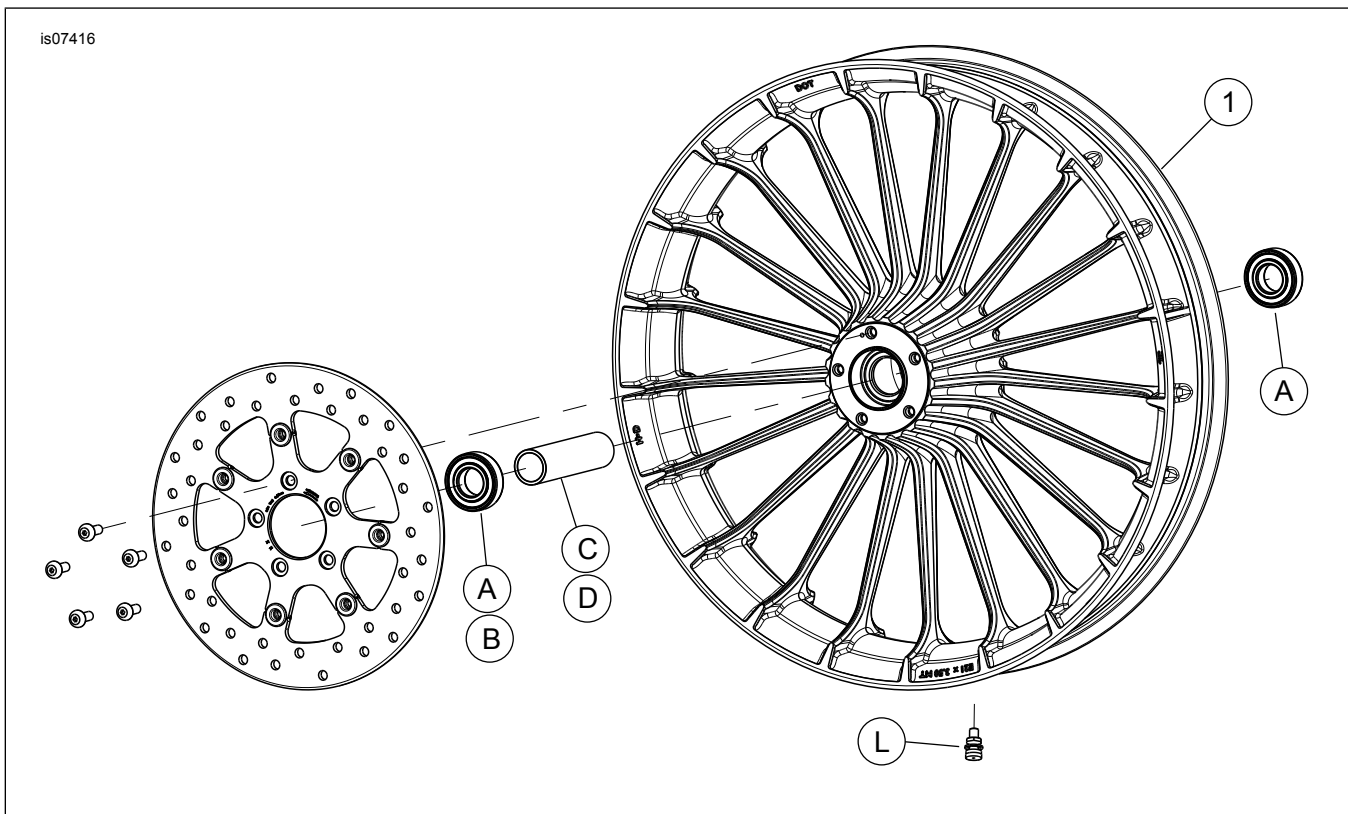

Figure 2. Service Parts: Front Turbine Wheel
This kit includes the custom wheel only. See Figure 2 and Table 2.
2. See Figure 2. Install valve stem assembly (L) on wheel. See service manual.